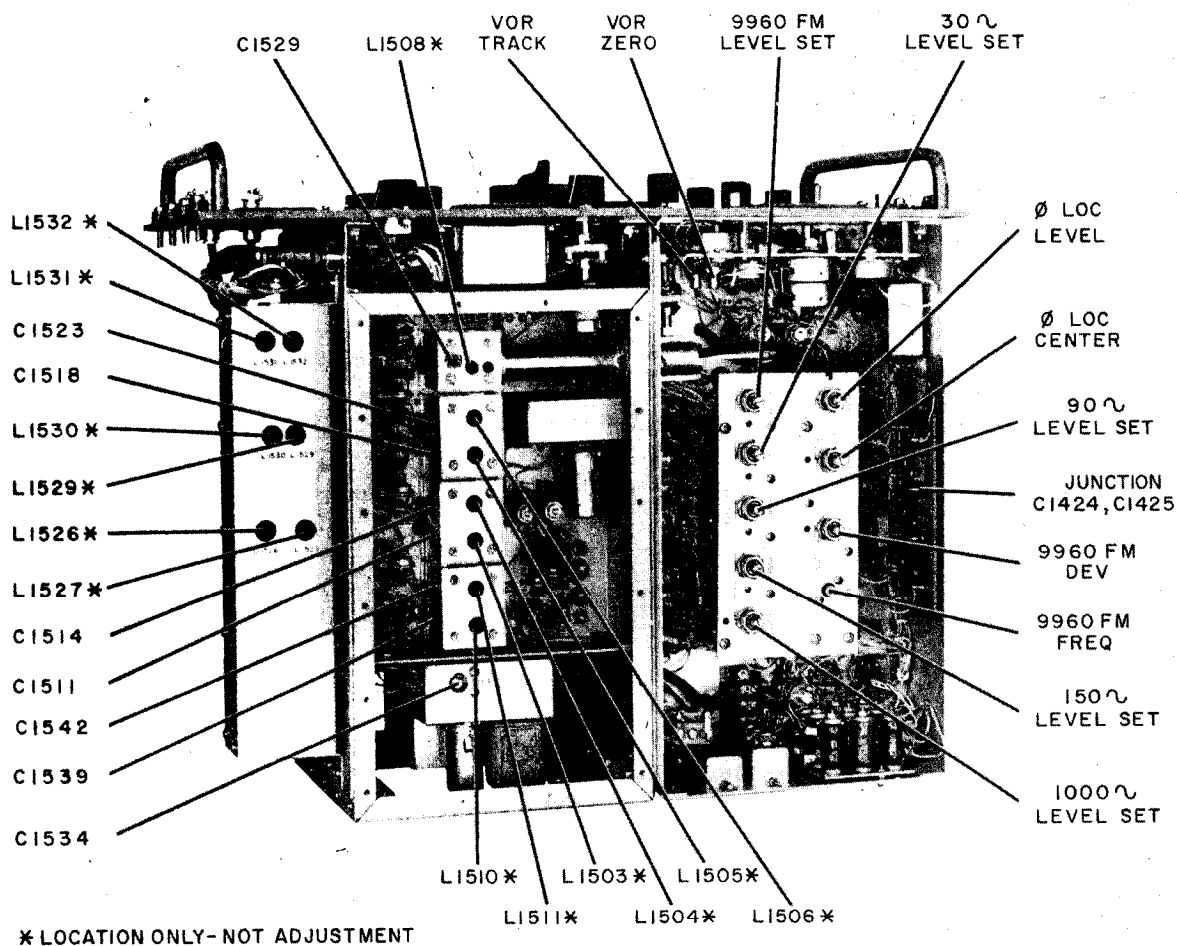
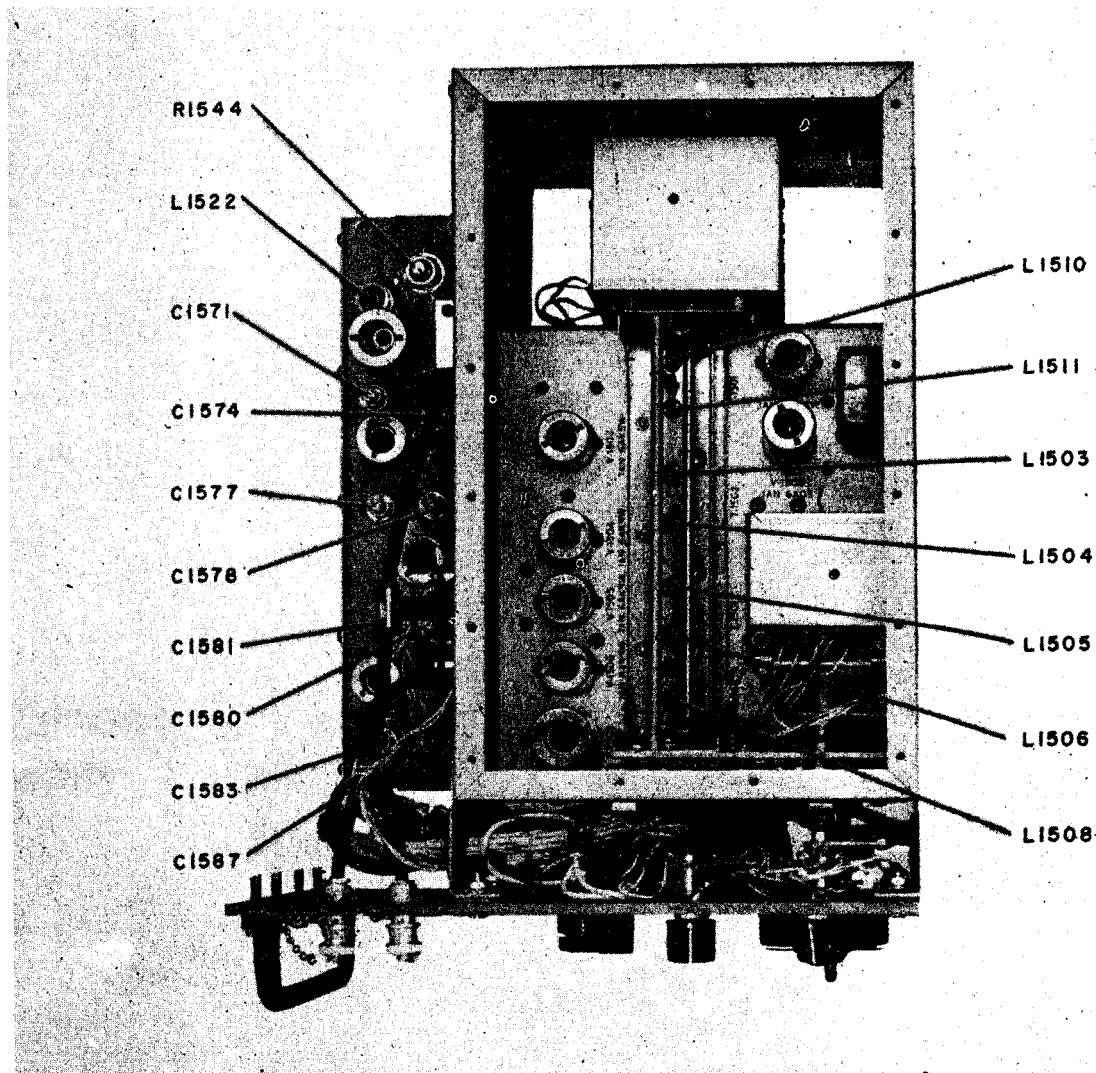

Figure 6-11. Signal Generator SG-13/ARN, Bottom Chassis Alignment Points
Figure 6-12. Signal Generator SG-13/ARN, Top Chassis Alignment Points
g. Connect a d-c vacuum tube voltmeter to E1508 (figure 6-11) (junction of R1515 and R1516).
h. Insert the iron end of the tuning wand into L1503, L1504, L1510, L1511, L1505 and L1506 (figure 6-11) and note any increase in d-c voltage at E1508. Insert the iron end of the tuning wand into L1508 (figure 6-11) and note any increase in output on the CAR meter. Insert the brass end of the tuning wand into the same coils and note any increase in E1508 voltage or CAR meter reading. If a circuit is properly tuned inserting either end of the tuning wand will cause the output to drop. Note the results but do not make any adjustments. It will be noted that the tuning of the last two coils toward the front of the r-f chassis is much more critical than the tuning of the preceding stages.
k. If the above steps indicate the need for alignment, continue with step 1, below. The final tank circuit, Z1502, is the one most likely to require alignment. In most cases a slight adjustment of C1529 (figure 6-11) is all that is required.
1. Turn MEGACYCLES control to 135.5 and check for proper tuning of Z1502 with the tuning wand. If inserting either end into L1508 increases the output as read on the meter in the CAR position, tune C 1529 on the final tank Z1502, for a maximum on the meter. (See figure 6-11.) The brass end of the tuning wand serves as an adjusting tool. Only a slight change in tuning capacitance should be necessary.
in Z1502. This adjustment is on the slug rack on top of the chassis. (See figure 6-12.)
o. Connect a d-c vacuum tube voltmeter to E1508 to measure the output of quadrupler V1505. Tune to 135.5 me and check each coil in Z1501 (L1505 and L1506) for resonance. Adjust the trimmers on the side of Z1501 (C1518 and C1523) if necessary using the right angle screwdriver provided. (See figure 6-11.)
p. Tune to 108.5 me and check for resonance. Adjust the L1505 and L1506 slugs in Z1501 if necessary. (See figure 6-12.)
u. The coarse frequency oscillator employs a frequency adjusting trimmer, C 1534 (figure 6-11), which is adjusted at the factory and should not require any further attention unless changes are made in the components or wiring in the grid circuit of V1502. In this event, measure the frequency of the oscillator using each of the 28 frequencies. Make these measurements with a secondary frequency standard having an accuracy of ± 0.001 percent. See table X for crystal frequencies. A small pick-up loop inserted in the T1501 coil nearest the coarse frequency oscillator (L1510) will provide enough pick-up to permit measurement of the 7375-9625-kc signals. Rotate the MEGACYCLES control to each of the 28 positions and measure each of the 28 crystal frequencies. All should be accurate
c. Connect a d-c vacuum tube voltmeter between L1530 and ground. (L1530 is accessible through the hole in the univertter cover as shown in figure 6-11. Make test connections by placing meter lead on any part of the turns in the coil.) Tune L1522 (figure 6-12) for a peak reading on the vacuum tube voltmeter.
d. Measure the receiver avc voltage with a d-c vacuum tube voltmeter and adjust the MICROVOLTS dial to a level just high enough to give a small avc voltage. In cases of extreme misalignment, it may be necessary to advance the setting of R1544 in a clockwise direction to obtain an indication of avc voltage. Adjust C1571 and C1574 for maximum output as indicated by the receiver avc voltage. See figure 6-12.
VOLTS dial set at 1000. (Use GS output connector.) Adjust R1544 (figure 6-12) on the univertter to duplicate the avc reading noted above.
c. Rotate AUDIO SELECTOR to 9960 FM position and set 9960 FM DEV control for zero deviation. Adjust the 9960 FM FREQ control to a frequency of 9960 cps as measured at the AUDIO OUT connector with an oscilloscope and accurately calibrated a-f oscillator using Lissajous patterns. These controls are located on the potentiometer panel (figure 6-11). The oscillator is very stable and should seldom need resetting. If the frequency is lower than 9960 cps at all settings of the 9960 FM FREQ control, remove the white-orange jumper wire used to connect C1437 in parallel with C1434. If the frequency is higher than 9960 cps at all settings of the 9960 FM FREQ control, connect a jumper wire to place C1437 in parallel with C1434. These capacitors are located on the underside of the potentiometer panel and accessible only when the panel is pulled back. Points A and B (figure 6-14) show the jumper connecting points.
d. With the AUDIO SELECTOR on the $30 \sim \text{VAR } \phi$ position, adjust the $30 \sim \text{LEVEL SET}$ control (figure 6-11) until the same 30 cps detector voltage is obtained as in step b. Lock the $30 \sim \text{LEVEL SET}$ control.
6-47. 9960 FM MODULATION LEVEL. With the AUDIO SELECTOR in the 9960 FM position set the 9960 FM LEVEL SET control (figure 6-11) to 30 percent modulation using the same procedure as described in paragraph 6-46, above.
6-48. 1000 CPS MODULATION LEVEL. With the AUDIO SELECTOR in the 1000 \sim position, adjust the 1000 \sim LEVEL SET control (figure 6-11) to 30 percent
d. Without changing the setting of the LOC-GS control, rotate the AUDIO SELECTOR to 150~ position and adjust the 150~ LEVEL SET control (figure 6-11) to obtain the same voltage at the AUDIO OUT connector as read in step a, above, for 90 cps.